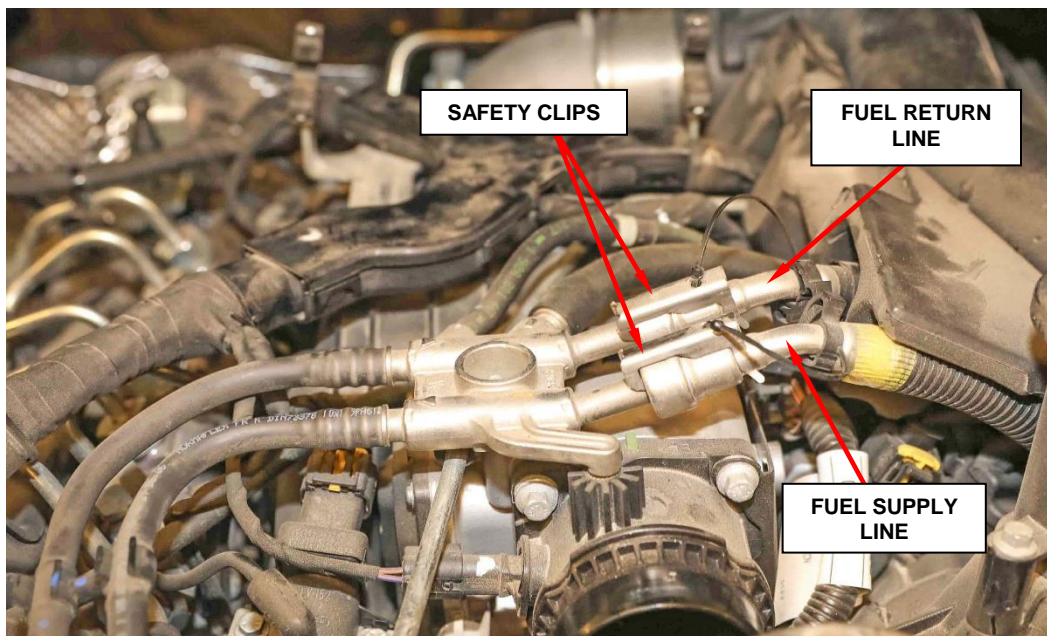

Figure 20 – Fuel Lines
26. Disconnect the supply and return lines from the fuel manifold (Figure 20).